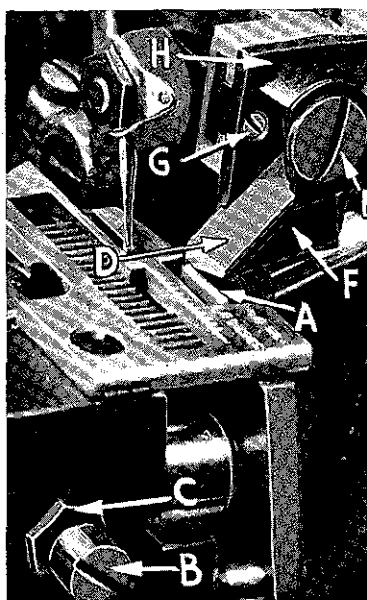

Fig. 12
Replace lower knife holder assembly. Lower knife (A, Fig. 12) should be set with cutting edge flush with throat plate surface. Adjustments are made with hexagonal head screw which holds lower knife. Lower knife is spring pressed against upper knife, so no lateral adjustment is necessary when width of trim is changed.
Replace upper knife assembly. Clamp upper knife (D, Fig. 12) in position, setting screw (E) to hold clamp (F) in its most clockwise position against upper knife. At bottom of its stroke, front cutting edge of upper knife should extend not less than  $\frac{1}{64}$  inch below cutting edge of lower knife.